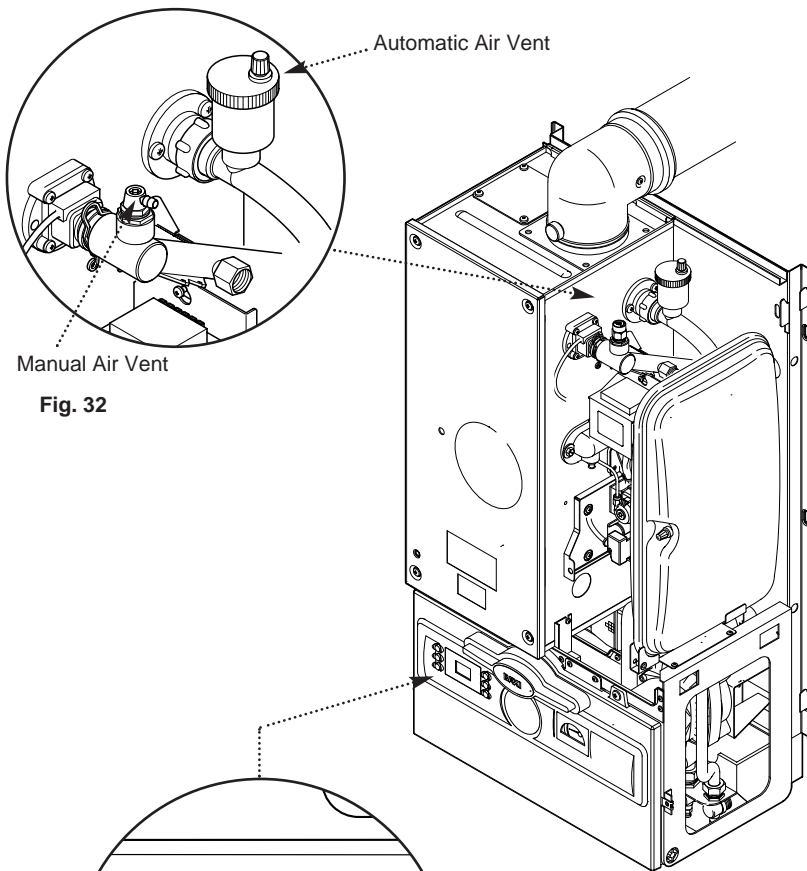
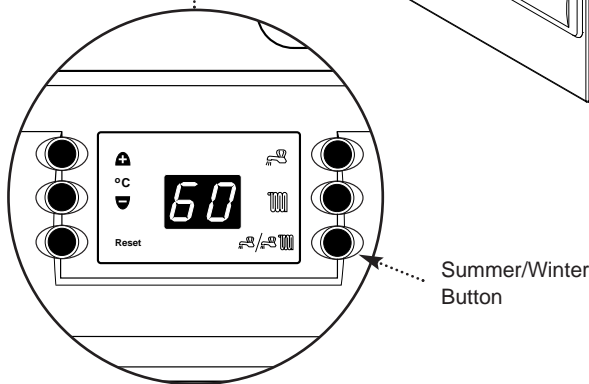

Fig. 32
Fig. 33
4. Open the manual and automatic air vents (Fig. 32). To help purge the primary circuit turn the pump on & off several times by using the Summer/Winter button (Fig. 33) (ensure all external controls are turned on and calling for heat).